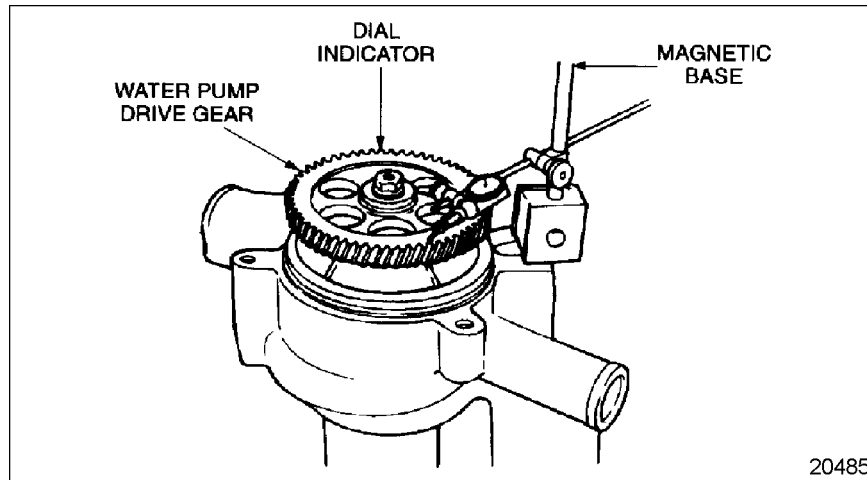

Figure 13-1 Measuring Water Pump Drive Gear Run-out
2. Turn the water pump over and install J-35687, water pump impeller slip and lash tester, into the tapped holes provided in the impeller; see Figure 13-1.